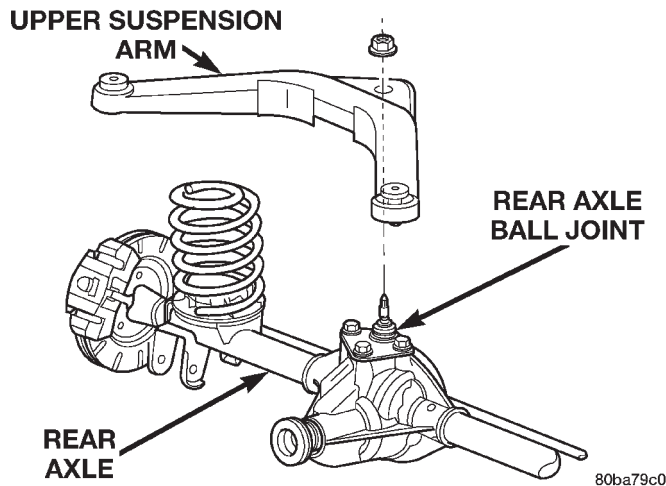

Fig. 8 Install Rear Ball Joint Nut
- (1) Raise the axle with lifting device and align coil springs.
- (2) Position the lower suspension arms on the axle brackets. Install nuts and bolts, do not tighten bolts at this time.
- (3) Install the upper suspension arm to the rear axle ball joint.
- (4) Install nut to hold the upper suspension arm to the rear axle ball joint. Torque the nut to 122 N·m (90 ft.lbs.) (Fig. 8).
- (5) Install track bar and attachment bolts, do not tighten bolts at this time.
- (6) Install shock absorbers and tighten nuts to 60 N·m (44 ft. lbs.) torque.
- (7) Install stabilizer bar links and tighten nuts to 36 N·m (27 ft. lbs.) torque.